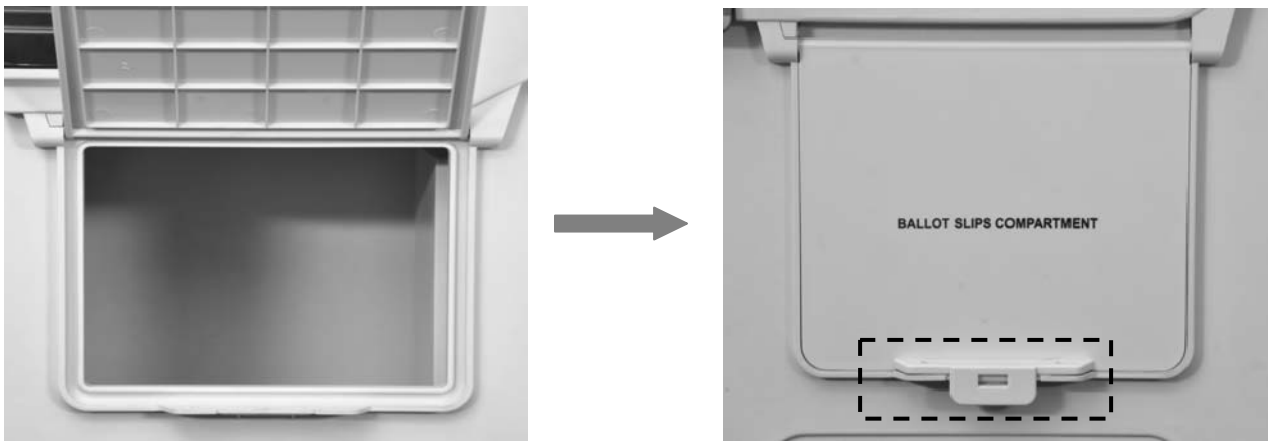

Figure 3.18 - Sealing of Ballot Slips Compartment
3.1.10 Sealing of Ballot Slips Compartment : The ballot slips compartment is to be sealed with two holes provided after mock poll as shown in Figure 3.18.